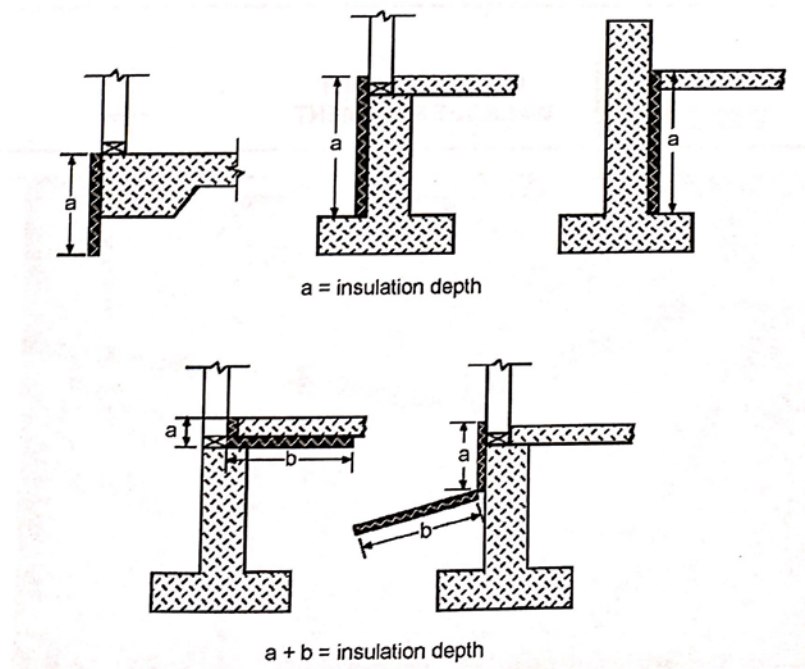

Figure R402.2.8
- Slab-Edge (Perimeter): Must show slab-edge (perimeter) insulation greater than minimum IECC requirement on drawings and install accordingly. Methods shown in figure R402.2.8 below.